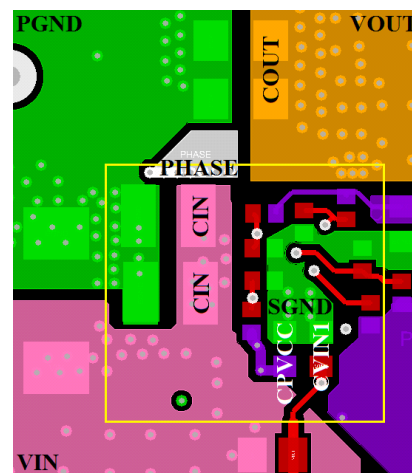

Figure 51. Layout Example - Bottom Layer
- Place the PVCC and VIN1 bypass capacitors underneath the PVCC and VIN1 pins and connect their grounds to the SGND. For the external pin-strap resistor dividers connected to PROG1, PROG2, PROG3, and PROG4, connect the low side dividers' ground to the SGND. If a local decoupling capacitor is used to bias these resistor dividers, place the decoupling capacitor close to the dividers, and connect the capacitor's ground to the SGND. An example layout is illustrated in Figure 51.